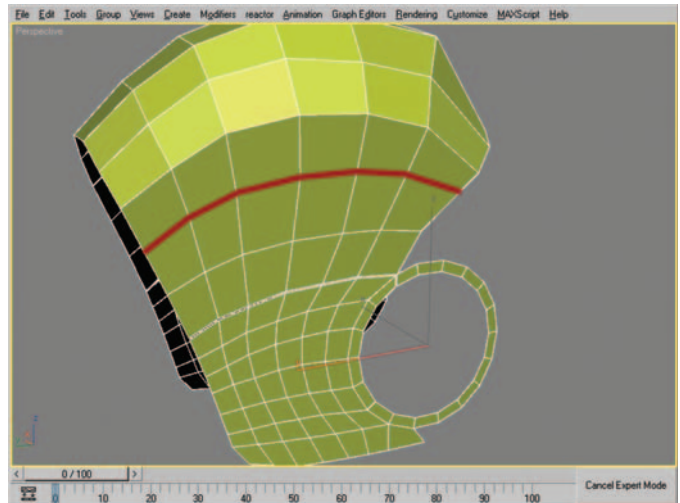

Figure 8.26 Edge selection to be chamfered.
30. Select the edges shown in Figure 8.26 and use the Chamfer settings